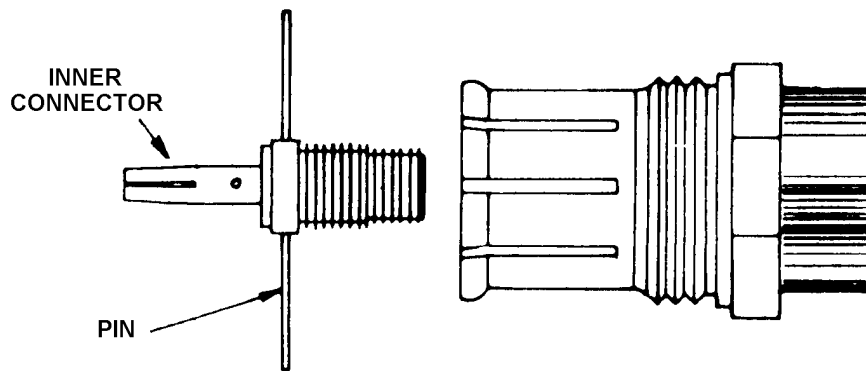

Figure 1.26 - Installing the Inner Connector
- 8.8 Place a 'pin' through the hole in the self-tapping inner connector (Figure 1.26) and use it as a 'tommy bar' to tap the connector into the inner conductor. To aid tapping, use a small amount of solvent as a lubricant. If tapping becomes difficult, 'back off' the inner connector after every few turns. Tap until the inner connector 'bottoms' against the inner conductor and then tighten. Remove the 'pin' from the inner connector.